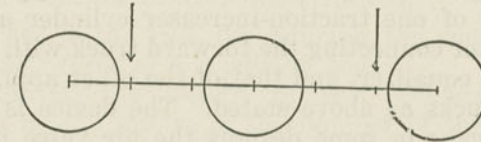

Fig. 255. Equalizing Weight on Drivers.
*A. At points two-thirds away from the center wheel pair; this will put 16,000 pounds on each wheel of the first and third pairs and twice  $8,000 = 16,000$  on each one of the center pair. (Fig. 255.)*